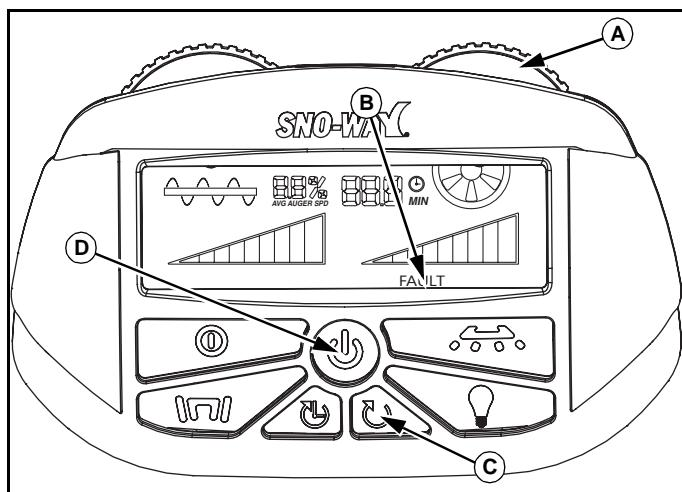

Figure 1-19
When the spinner is overwhelmed with material, the word FAULT (B) will be illuminated on the screen. The right Spinner Dial (A), Power Button (D), and Reset Fault Button (C) will flash red. The graph will disappear and the spinner will attempt to clear itself of the jam. If the jam is released, the spreader will resume its prior operation. If the jam has not been released the unit will beep, and stop functioning. The word FAULT (B) will remain illuminated on the screen. The Spinner Dial and Reset Fault button will flash red, while the Power button will be solid red. (See Figure 1-19.)